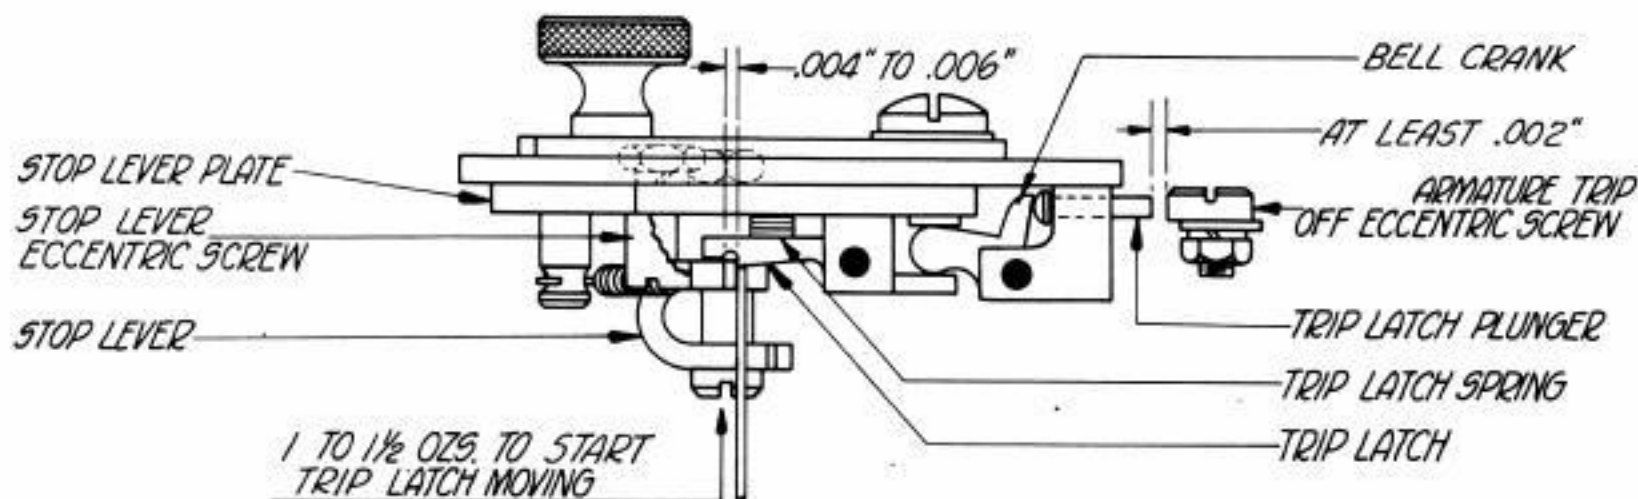

FIGURE 8
Stop Lever Eccentric Screw Adjustment (Figure 8) - See Note (A)
Trip Latch Spring Compression (Figure 8) - See Note (A)
The trip latch plunger should have at least .002" end play (See Figure 8) when the armature is held against the marking stop and with the stop lever clear of the latching surface of the trip latch.